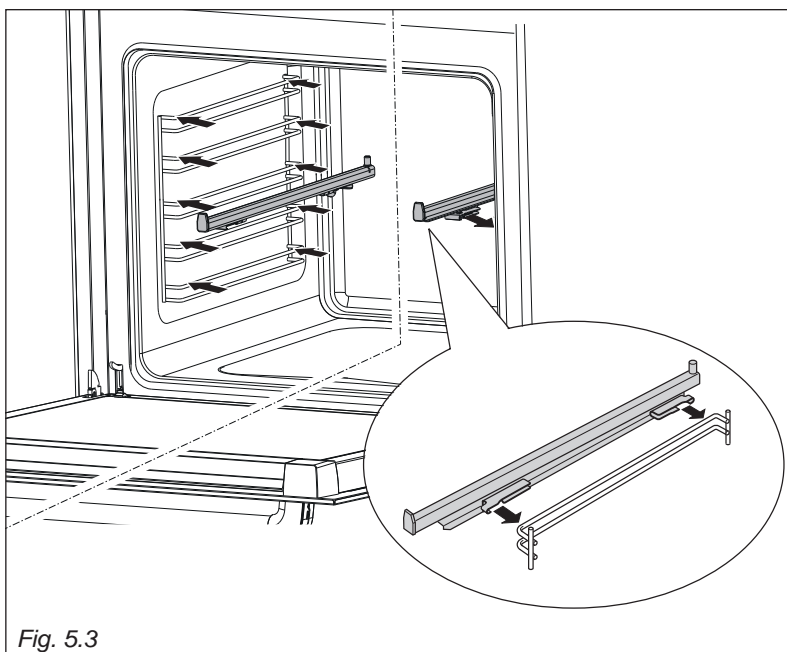

Fig. 5.3
- Fit the sliding shelf supports onto the top wire of a rack and press (fig. 5.3). You will hear a click as the safety locks clip over the wire.